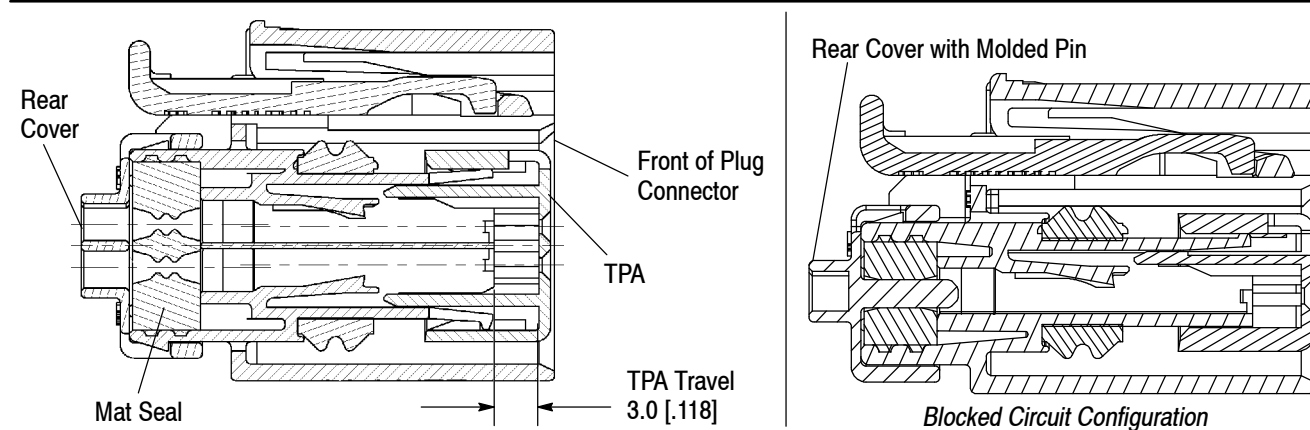

Figure 5
The rear of the connector must be completely sealed. Unused circuits are blocked by molding shut the unused terminal opening on the rear cover. A pin molded on the blocked circuit passes through the mat seal to prevent any contamination from entering the seal. See Figure 5. Current blocked circuit configurations can be found on the TE Customer Drawing. New configurations can be obtained by contacting the PRODUCT INFORMATION number at the bottom of page 1.
1. Verify that the TPA is in the pre-staged position (un-locked). Prior to installing the contacts, the TPA and the front of the connector should be almost flush with each other. See Figure 5.